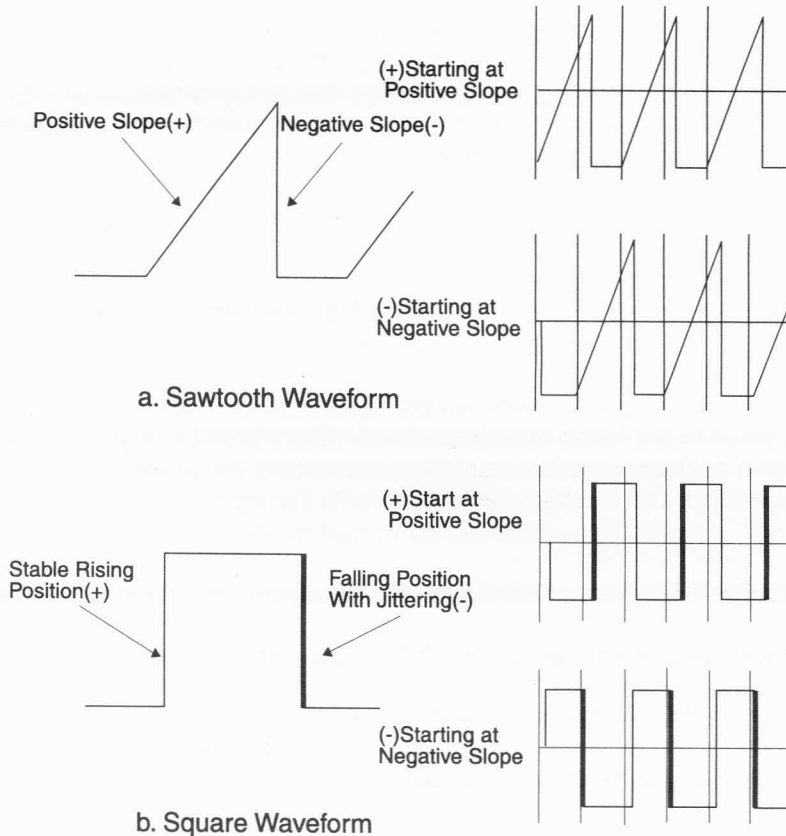

Fig. 2-4: Trigger-Slope Selection
The SLOPE switch determines whether the sweep will on a positive-going or negative-going transition of the trigger signal (See fig. 2-4). Always select the steepest and most stable slope or edge. For example, small changes in the amplitude of the sawtooth shown in Figure 2-4 a will cause jittering if the timebase is triggered on the positive (ramp) slope, but have no effect if triggering occurs on the negative slope (a fast-fall edge).
The LEVEL control determines the point on the selected slope at which the main (A) timebase will be triggered. The effect of the LEVEL control on the displayed trace is shown in figure 2-4 c. The "-", "0", and "+" panel-markings for this control refer to the waveform's zero crossing and points more positive (+) and more negative (-) than this. If the trigger slope is very steep, as with square waves or digital pulses, there will be no apparent change in the displayed trace until the LEVEL control is rotated past the most positive or most negative trigger point, whereupon the display will free run (AUTO Sweep mode) or disappear completely (NORM sweep mode).